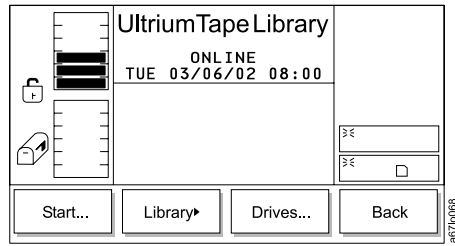

Figure 321. Service Menu
2. Press the button below the **Service** softkey. The Service Menu displays (see Figure 321 on page 215).